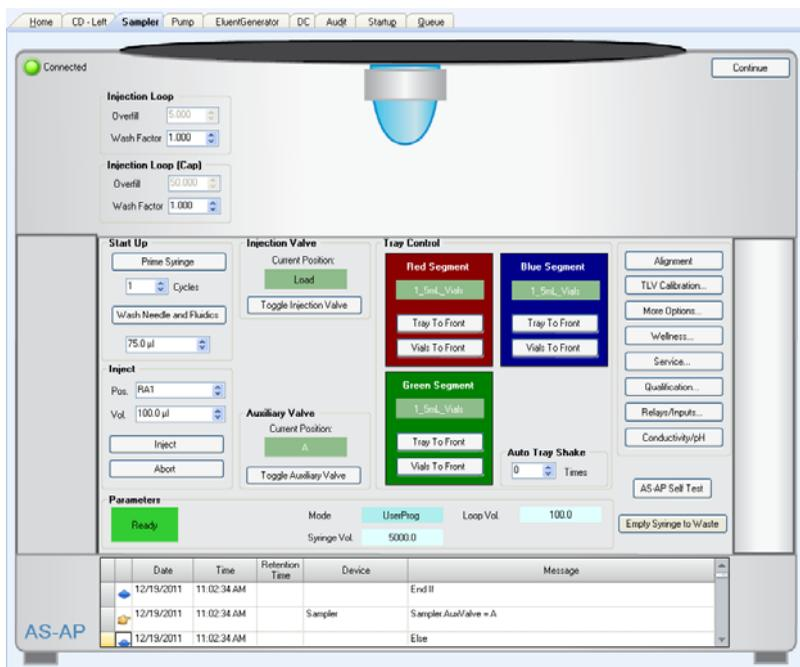

Figure 3-2. Example Chromeleon 7 ePanel Set: Dionex AS-AP ePanel
4. To display the Dionex AS-AP ePanel, click the **Instruments** category bar on the Console. In the Navigation Pane, click your instrument. Chromeleon 7 connects to the instrument and displays the ePanel Set. Click the **Sampler** tab (see Figure 3-2).